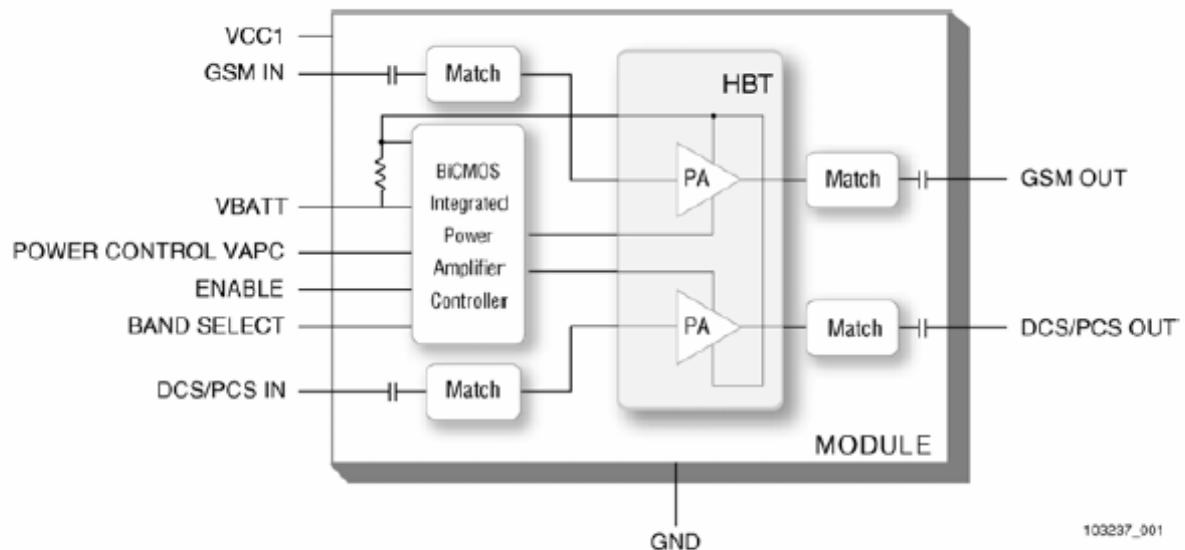

Figure1. Functional Block Diagram
The SKY77328 Power Amplifier Module (PAM) is designed in a low profile (1.2 mm), compact form factor for quad-band cellular handsets comprising GSM850/900, DCS1800, and PCS1900 operation. The PAM also supports Class 12 General Packet Radio Service (GPRS) multi-slot operation. The module consists of separate GSM850/900 PA and DCS1800/PCS1900 PA blocks, impedance matching circuitry for 50 Ω input and output impedances, and a Power Amplifier Control (PAC) block with an internal current-sense resistor. The custom BiCMOS integrated circuit provides the internal PAC function and interface circuitry. Fabricated onto a single Gallium Arsenide (GaAs) die, one Heterojunction Bipolar Transistor (HBT) PA block supports the GSM850/900 bands and the other supports the DCS1800 and PCS1900 bands. Both PA blocks share common power supply pins to distribute current. The GaAs die, the Silicon (Si) die, and the passive components are mounted on a multi-layer laminate substrate. The assembly is encapsulated with plastic overmold. RF input and output ports of the SKY77328 are internally matched to a 50 Ω load to reduce the number of external components for a quad-band design. Extremely low leakage current (2.5 μA, typical) of the dual PA module maximizes handset standby time. The SKY77328 also contains band-select switching circuitry to select GSM (logic 0) or DCS/PCS (logic 1) as determined from the Band Select (BS) signal. In Figure 1 below, the BS pin selects the PA output (DCS/PCS OUT or GSM850/900 OUT) and the Analog Power Control (VAPC) controls the level of output power. The VBATT pin connects to an internal current-sense resistor and interfaces to an integrated power amplifier control (iPAC™) function, which is insensitive to variations in temperature, power supply, process, and input power. The ENABLE input allows initial turn-on of PAM circuitry to minimize battery drain. Figure 1. Functional Block Diagram